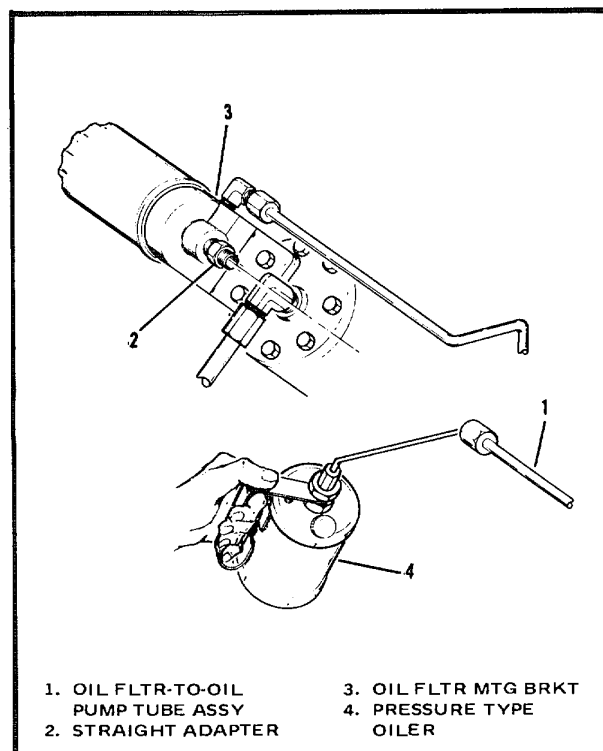

Figure 5-20. Priming Air Compressor Assembly Oil Pump
- 5-29. Priming Air Compressor Assembly Oil Pump. (Figure 5-20). To prime the air compressor assembly oil pump, proceed as follows: